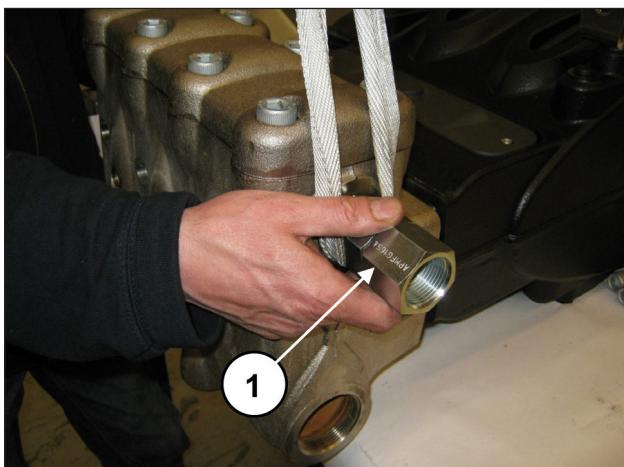

Fig. 108
During disassembly of the head, pay special attention not to hit the pistons (pos. ①, Fig. 108).